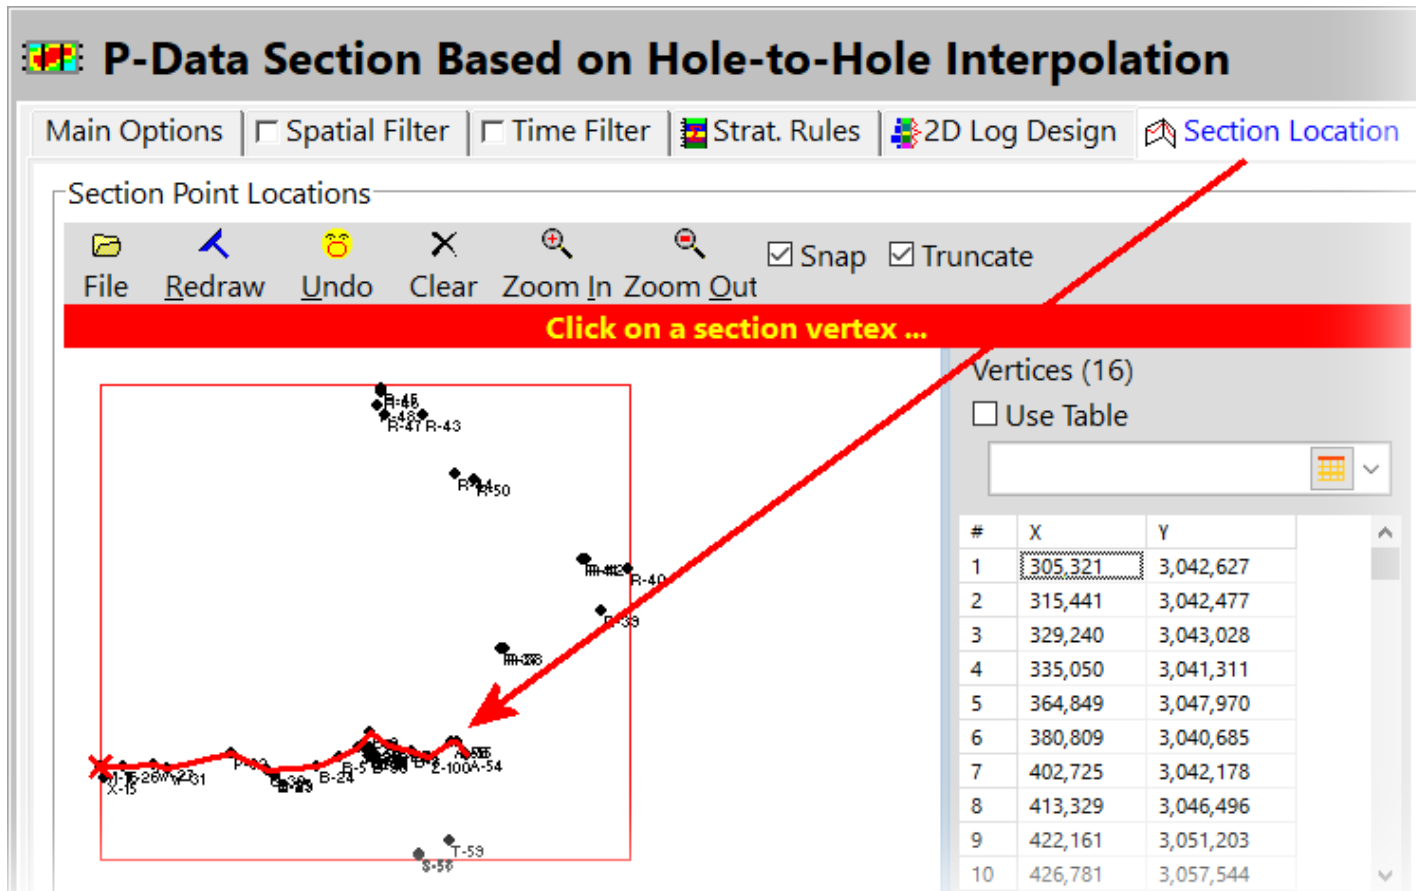

Figure 2
- Select the *Section Location* tab and define where the section traverse (Figure 2).